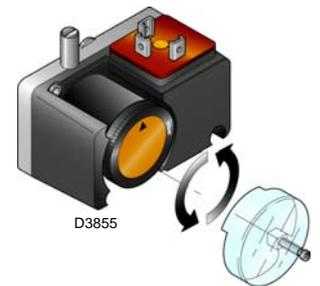

Fig. 24
- Adjust the pressure switch for the valve leak detection control device (PVP kit) (Fig. 24), if present, according to the instructions supplied with the kit itself.